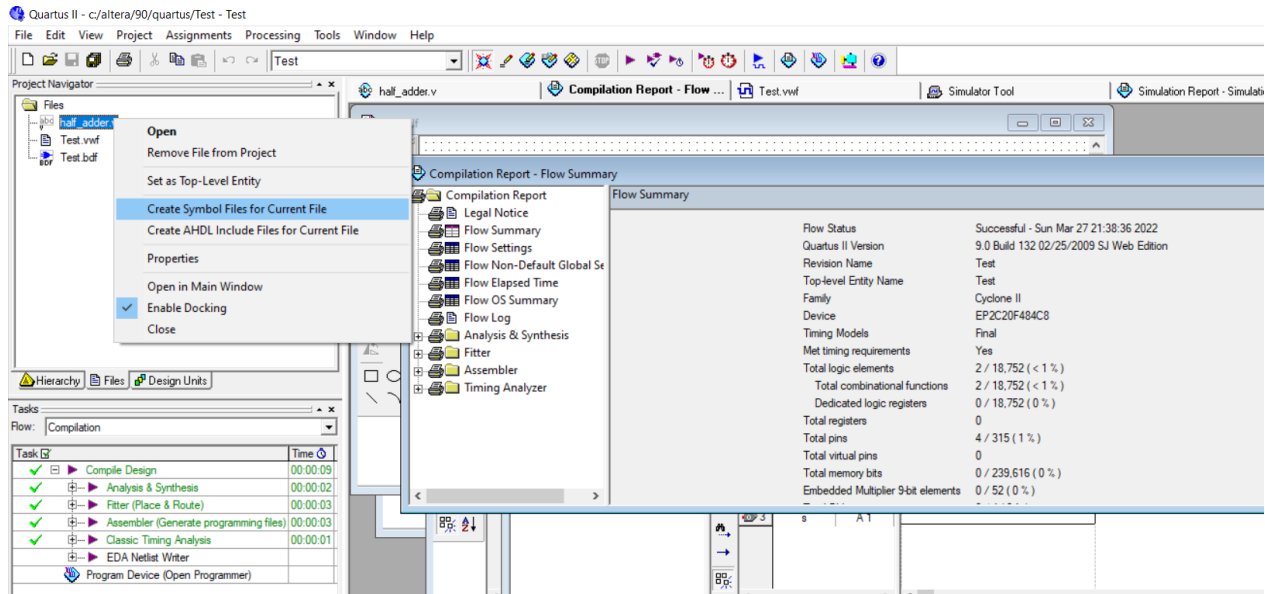

Figure 8.22: create symbol.
10. We can make symbol from code first Right click on the file name and select option **Set as Top-Level Entity** then right click in name of code file and choose **Create Symbol File for Current File**. as shown in Figure 8.22.